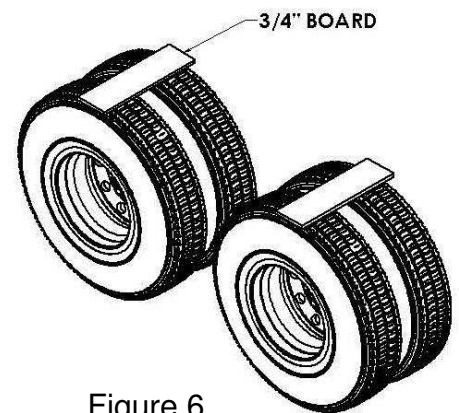

Figure 6
- a. For an air suspension system, place a $\frac{3}{4}$ ” board on top of the tires after the air has been let out of the airbags (Figure 6). Place the fender on top of the board.